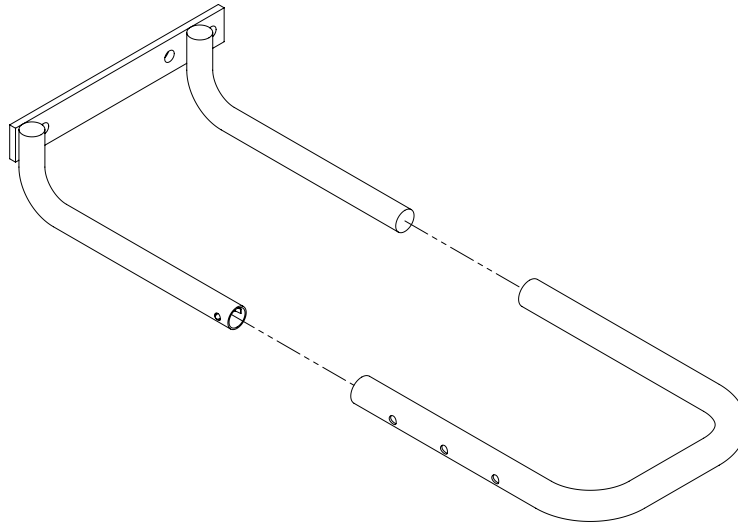

Figure 3 - Removing wheel brack positioning tube.
3. Press in the positioning pin and remove the slidable positioning tube from the wheel bracket (see figure 3).